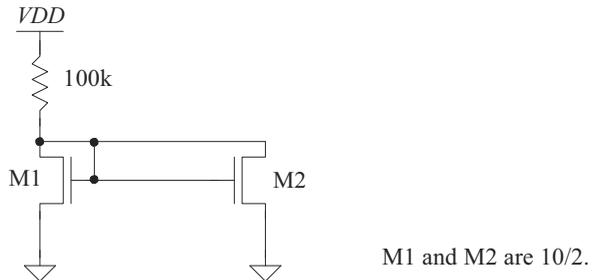

Figure 20.52 Circuit used in Problem 20.2.
- 20.2** Repeat problem 20.1 for the circuit in Fig. 20.52. Can M1 and M2 be replaced with a single MOSFET? If so how and what size? If not why?